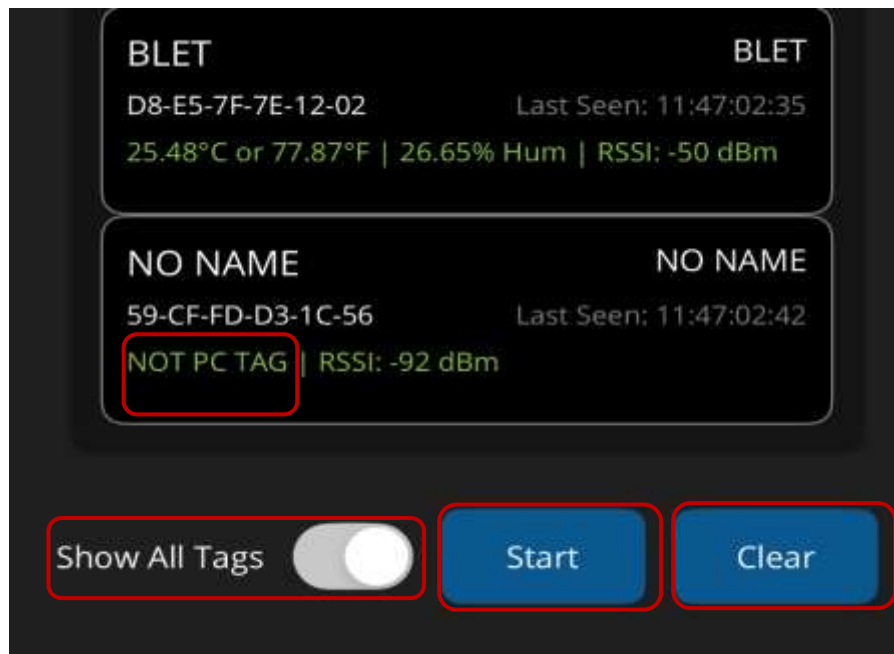

Fig 2: Powercast and a non-Powercast tag shown in ‘Show All Tags’ mode
- ii) To scan for tags in the app, press the start button in the bottom right. The button will then turn green and read stop, which can be pressed to stop reading tags. Pressing stop will prevent new tags from being read and already read tags from reporting new data. *(Refer fig 2 below)*
- iii) To clear tags from the page, press the clear button. This will remove all the previously read tags from the page and tags will only be displayed if they are read again after the clear button is pressed. *(Refer fig 2 below)*
- iv) The PC BLE Tag app has two tag scanning modes, which can be toggled between on the main app page. By default, the app only shows Powercast BLE Tags. By pressing the toggle switch to enable “Show All Tags” the app will display any BLE tag that is actively advertising within range. Instead of displaying temperature and humidity, non-Powercast tags display “NOT PC TAG” to easily differentiate when in the mode. (Refer fig 2 below)